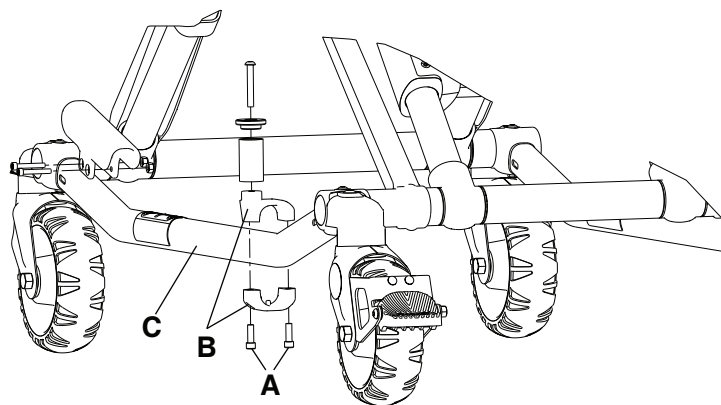

Figure 9 – Cot retaining post
1. Using a T30 Torx driver, remove the two socket head cap screws (A) that secure the brackets (B) to the base frame (C) (Figure 9). Save the screws.